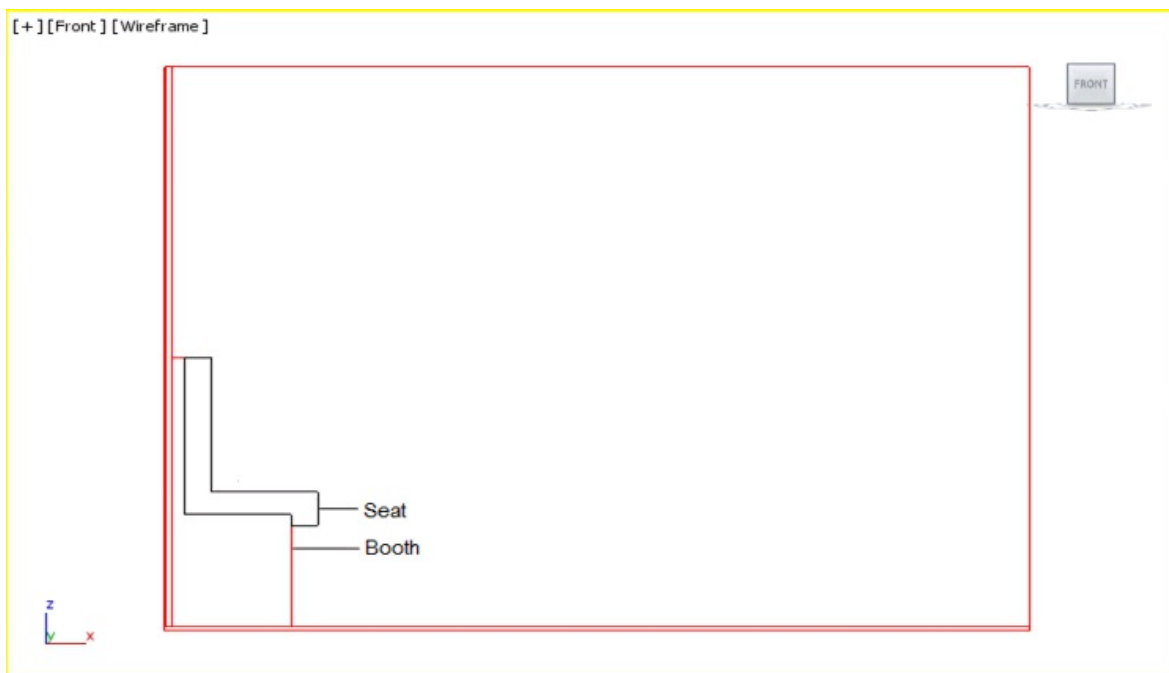

Figure P1-5 The profile of seat created
6. Choose the **Close** button to close the shape; the profile of the seat is created, as shown in Figure P1-5. Enter **Seat** as name of the shape in the **Name and Color** rollout. Right-click to exit the tool.